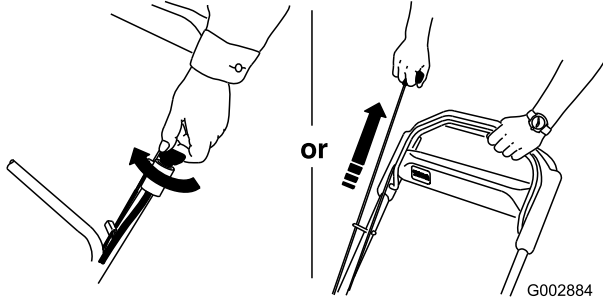

Figure 17
3. Start the engine using either the ignition key or the recoil starter (Figure 17).